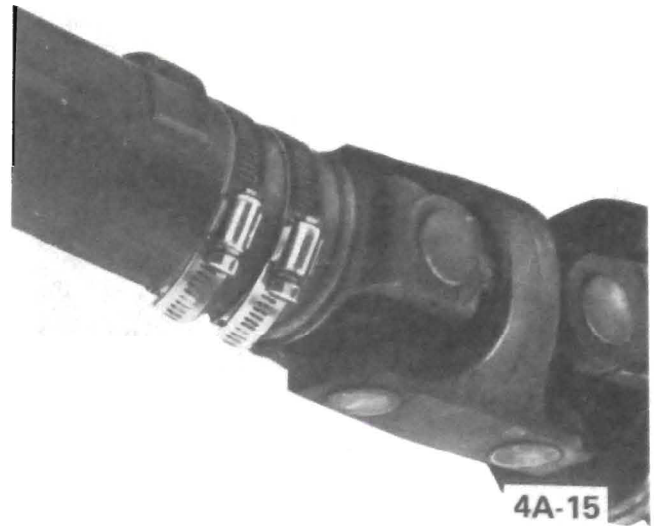

Figure 4A-18 Balance Hose Clamps in Place
7. Rotate two of the hose clamps equally away from each other toward the top (one each way from the original position as shown in Figure 4A-19), in small increments until best balance is achieved.